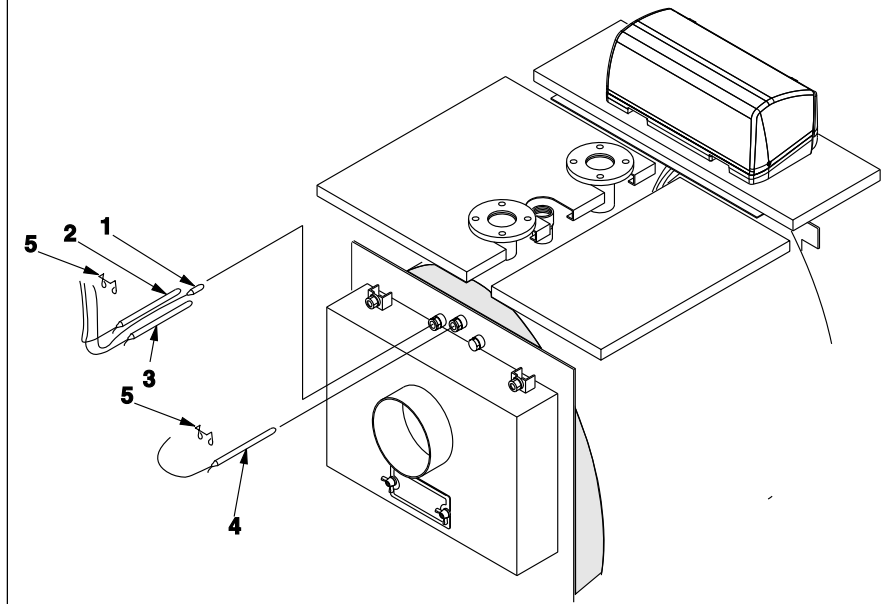

fig. 21
- E) Insert the thermometer and thermostat bulbs in the bulb holders as shown in fig. 21 and connect the mains, the burner, the pump(s) and any ancillary equipment to the panel board.